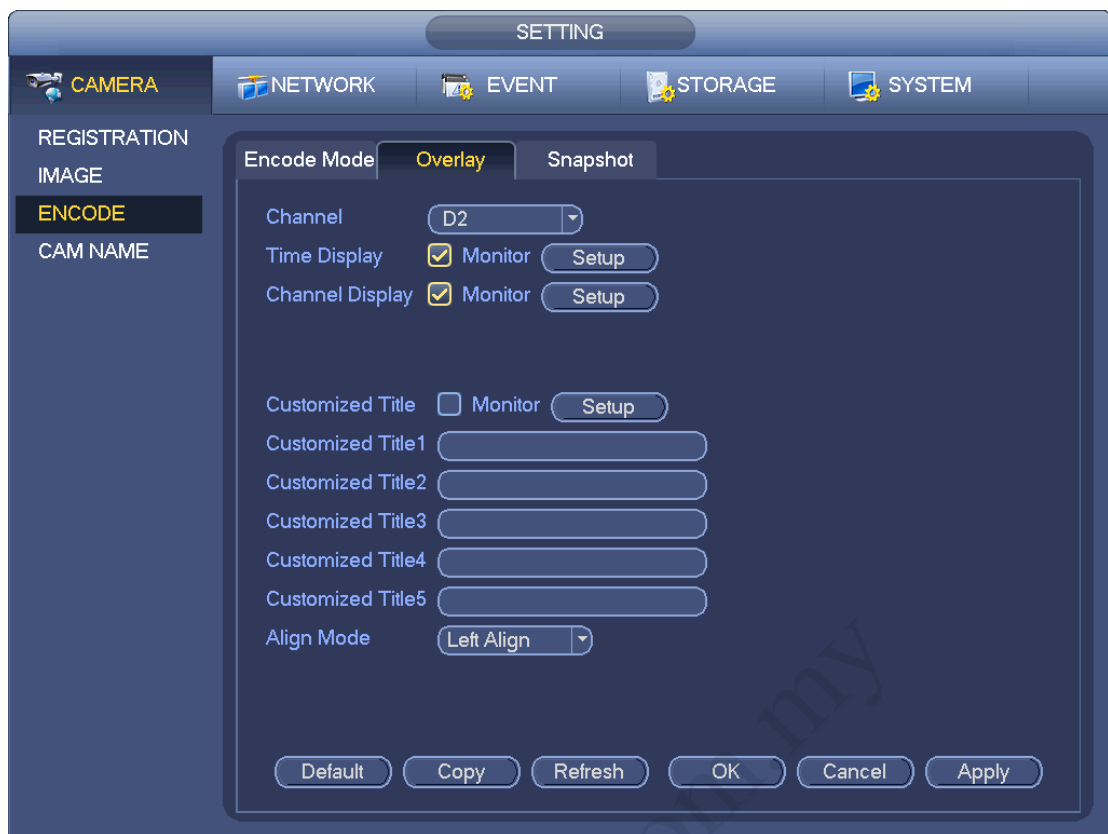

Figure 4-50
- Copy: After you complete the setup, you can click Copy button to copy current setup to other channel(s). You can see an interface is shown as in Figure 4-52. You can see current channel number is grey. Please check the number to select the channel or you can check the box ALL. Please click the OK button in Figure 4-52 and Figure 4-50 respectively to complete the setup. Please note, once you check the All box, you set same encode setup for all channels. Audio/video enable box, overlay button and the copy button is shield.
Click overlay button, you can see an interface is shown in Figure 4-50.